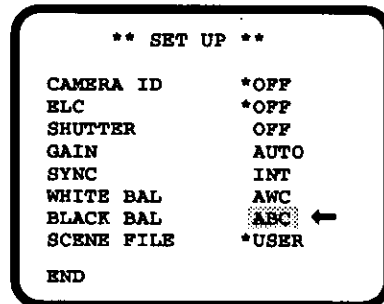

Fig.41.
- Display the SETUP MENU as shown in Fig.41.